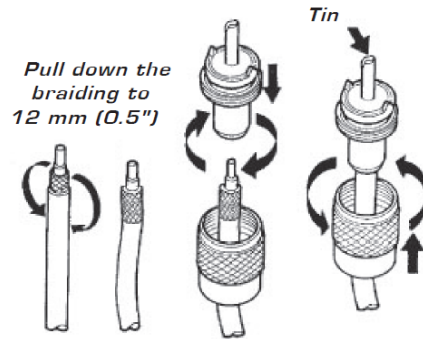

Figure 2
3. Referring to Figure 2, pull the braid down on top of the white insulation on the cable.